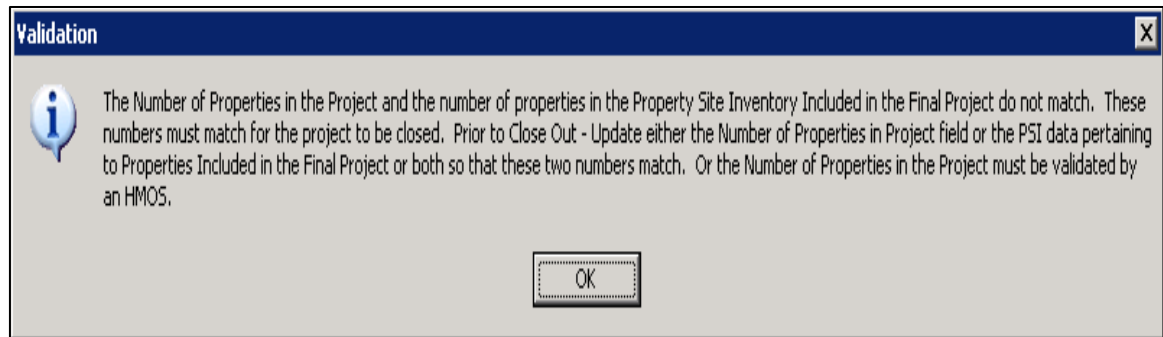
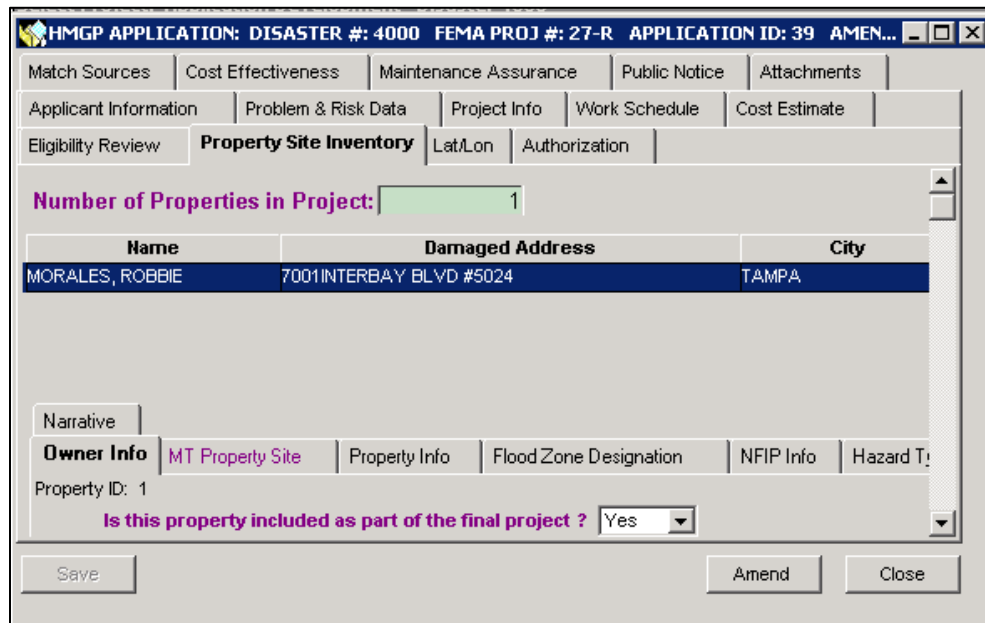

Figure 12-4: Number of properties in project not validated message
Figure 12-5: Number of Properties in Project field
7. With the V3.15.04 release of June 2013, a new project closeout validation message was introduced. Figure 12-4 shows the new validation message related to the validation of the Number of Properties in Project field found in the Property Site Inventory (PSI) tab. (See Figure 12-5)
- When encountering the validation message displayed in Figure 12-4, the user will have up to two options for resolving the message. Option #1 as detailed below will be available for all project types and will be the only option available for project types that require detailed property information to be captured by the PSI, such as acquisition and elevation projects.
- b. The HMO Specialist will review the documentation and validate your claim. This may include revising the Number of Properties in the Project Field (See figure 12-5).